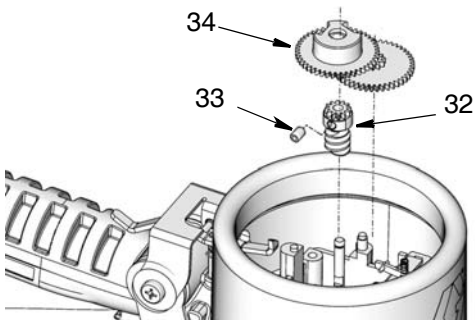

FIG. 32
2. Install the gears (32, 34). Use a 2 mm hex wrench to tighten gear set screw (33). (FIG. 32).